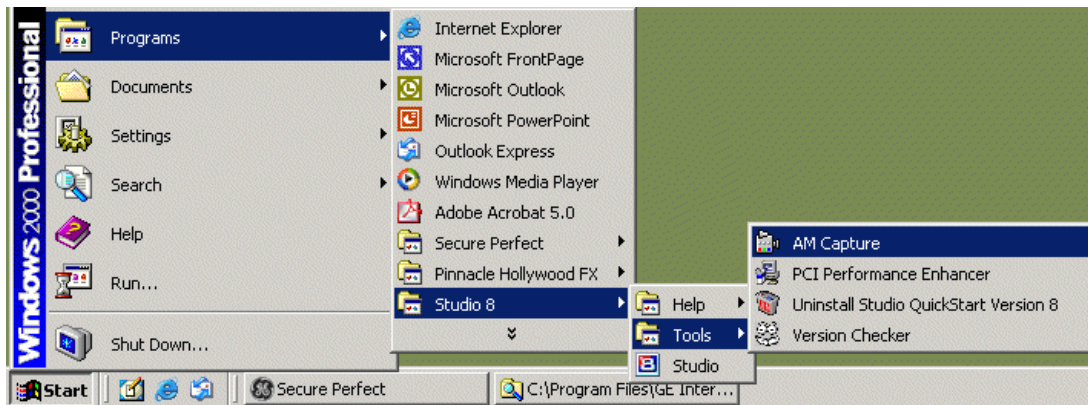

Figure 3. Studio 8 Program Menu
2. Navigate to the Studio 8 AM Capture from your Start menu. Refer to Figure 3.